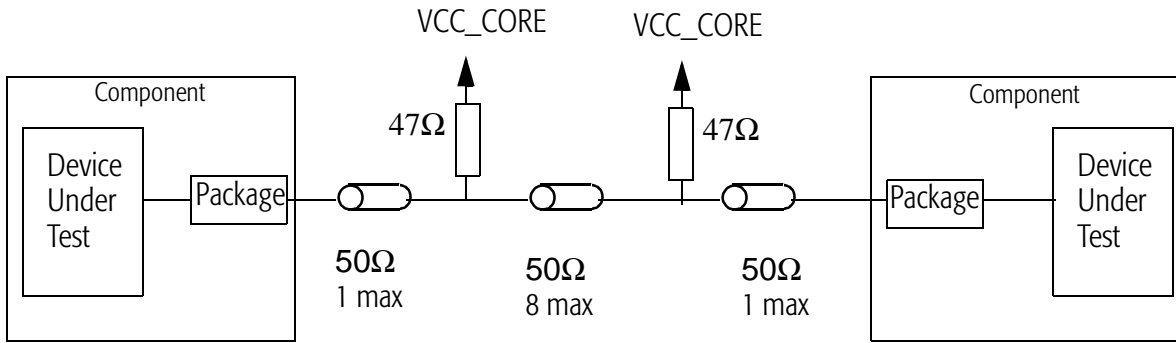

Figure 8. Test Circuit
– Test Circuit used—See Figure 8 on page 34.